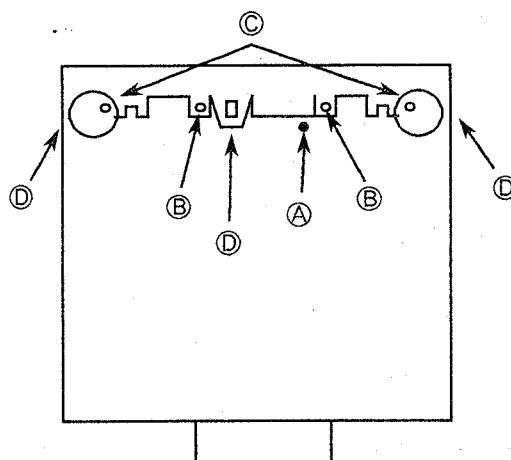

Fig. 1 Bottom view
6. Release the 3 hooks ⑦ to remove the front panel assembly from the chassis, and remove the main volume circuit board from the front pannel (Fig. 1).